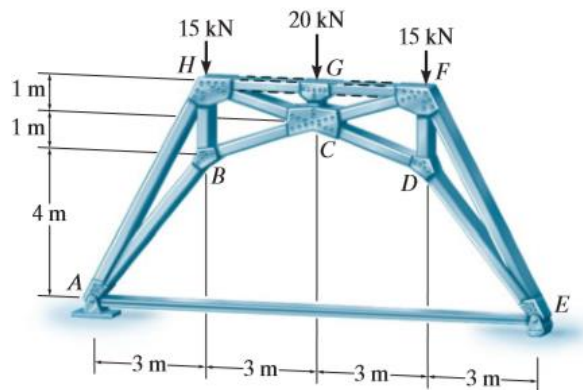

Fig. 4
4. The three-hinged tied arch is subjected to the loading shown in Fig. 4. Determine the force in members **CH** and **CB**. The dashed member **GF** of the truss is intended to carry no force.